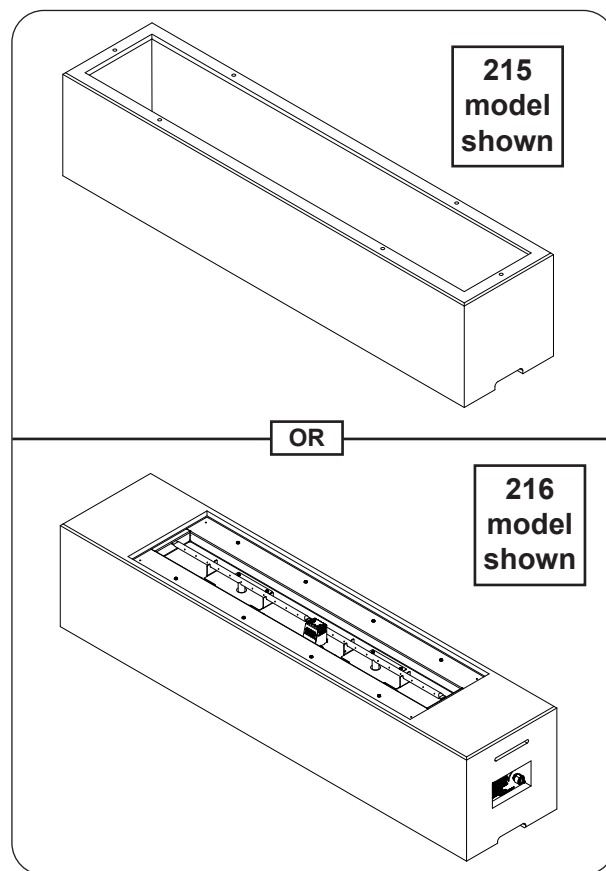

Fig. 23-1 Place unit/base
1. **CAREFULLY** place the unit/base in an appropriate location (see Fig. 23-1, and refer back to the LOCATION section if needed).